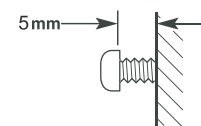

Fig. 8
4. Using a 9mm drill bit, enlarge the pilot holes and insert the plastic wall anchors (BB) into the wall along the line as reference point. Insert screws and leave a 5mm (Fig.8) gap between the wall and the back of the screw head to slide the range hood into place. Ensure the screws and anchors (AA and BB) are parallel with the horizontal line.